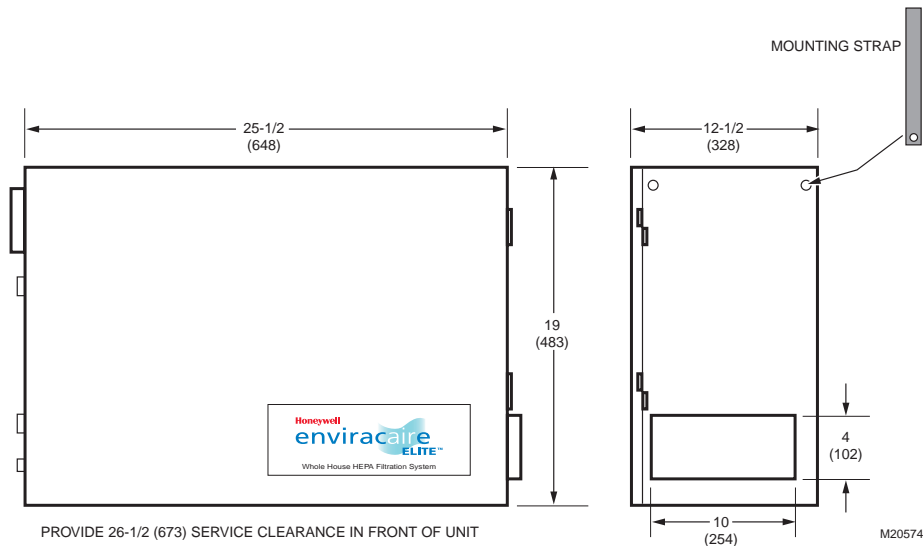

Fig. 1. F500 dimensions.
**Dimensions:** See Fig. 1.
3. Connect the HEPA System to the return air duct. See Fig. 1 and 2. Seal all duct joints with caulk, mastic, or high quality foil duct tape.